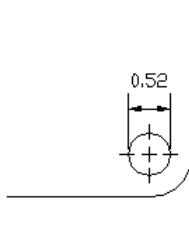

Figure 15-21: Dimension text is placed over the dimension line without a leader.
- ♦ **Over Dimension Line, without Leader:** Places the dimension text over the dimension line and between the extension lines, but above them, with no leader, as shown in Figure 15-21. You can move the text anywhere.